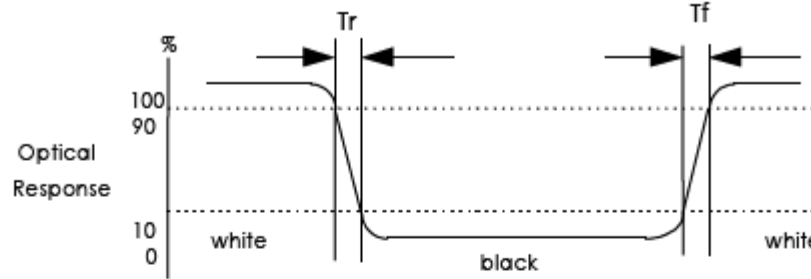

FIG.2. Measuring method for Contrast ratio, surface luminance, Luminance uniformity, CIE (x, y) chromaticity
Note 1. Contrast Ratio(CR) is defined mathematically as For more information see FIG 2.:
Note 2. Surface luminance is the LCD surface from the surface with all pixels displaying white. For more information see FIG 2.
Note 3. The uniformity in surface luminance, δ WHITE is determined by measuring luminance at each test position 1 through 5, and then dividing the maximum luminance of 5 points luminance by minimum luminance of 5 points luminance. For more information see FIG 2.